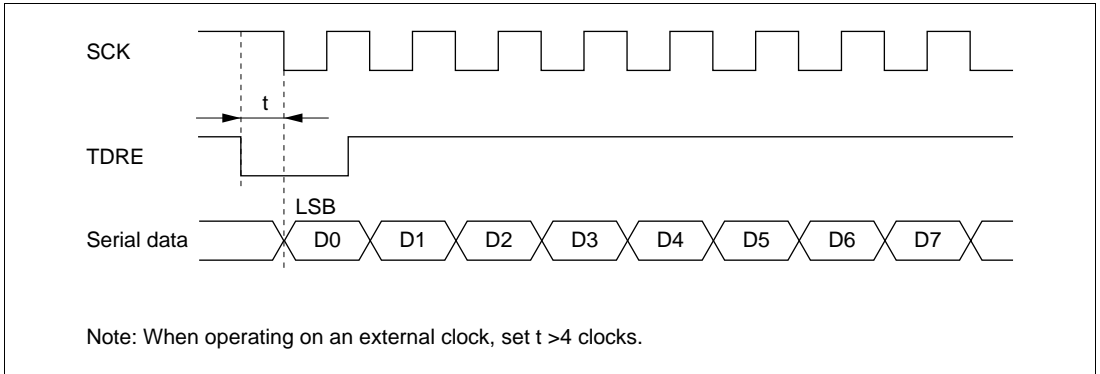

Figure 12.22 Example of Clocked Synchronous Transmission by DTC
- When an external clock source is used as the serial clock, the transmit clock should not be input until at least 5ϕ clock cycles after TDR is updated by the DTC. Misoperation may occur if the transmit clock is input within 4ϕ clocks after TDR is updated. (Figure 12.22)